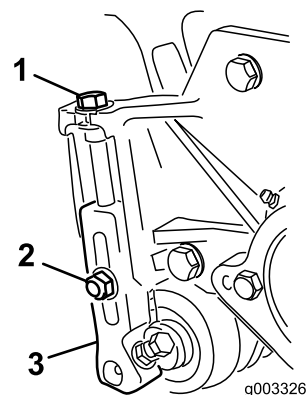

Figure 22
1. Loosen the locknuts securing the height-of-cut arms to the cutting-unit side plates (Figure 22).